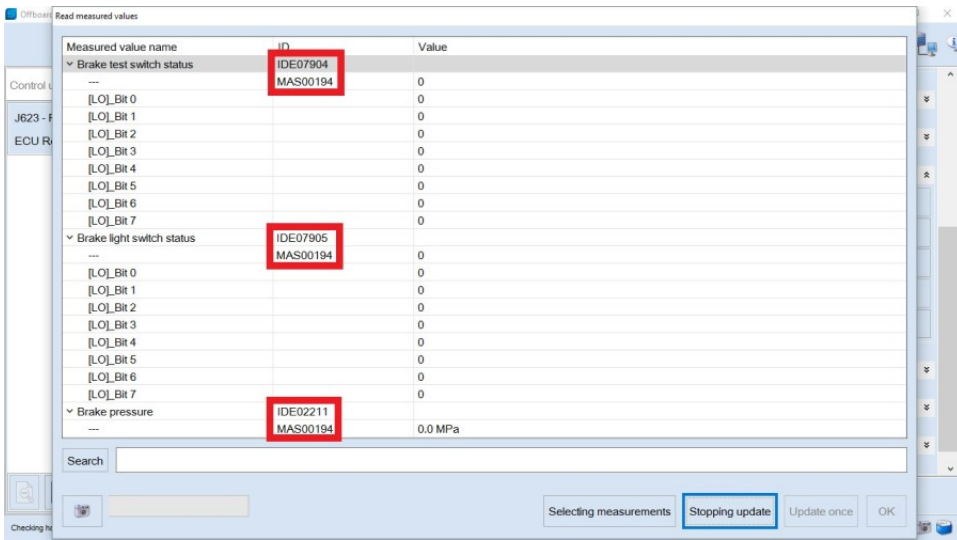

Figure 1
- Select the Measured values from the engine control module (Figure 1)